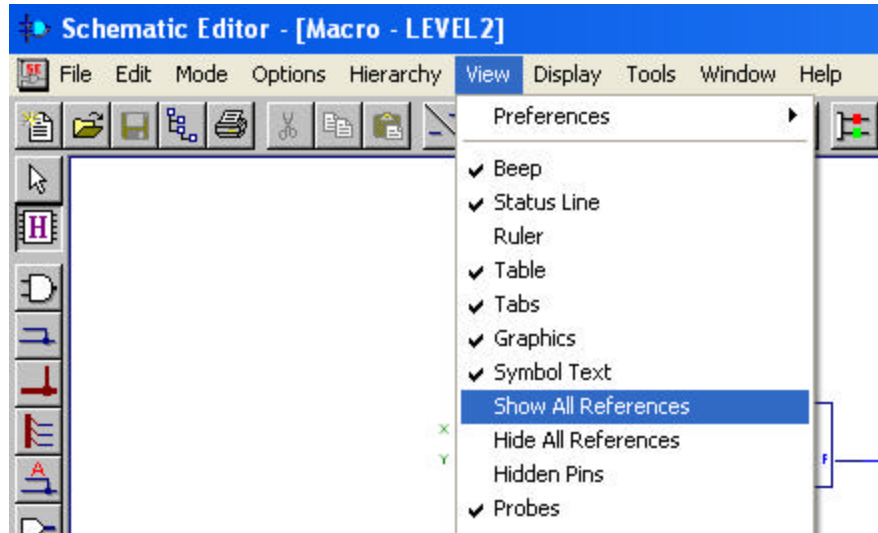

Figure 18
17. The name of the chip output is specified by the signal between the OBUF and the OPAD. Likewise for chip inputs and IBUFs and IPADs. In Figure18, F_OUT is the name of the signal that connects to the pin and the name you will find in your PAD report file.